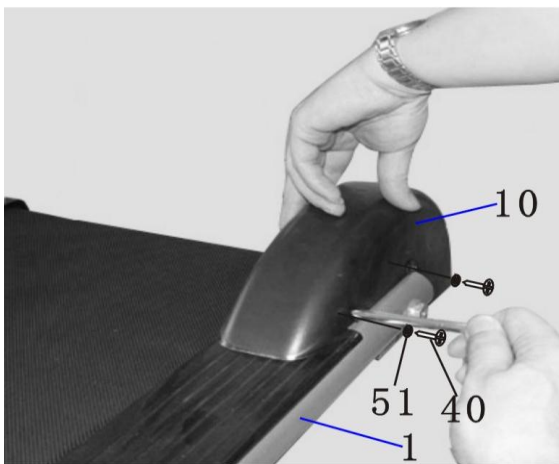

Figure 1
Attach the Flywheel cover (10) to the Main frame (1) with two Screws (40) and Flat washers (51). (See figure 1)